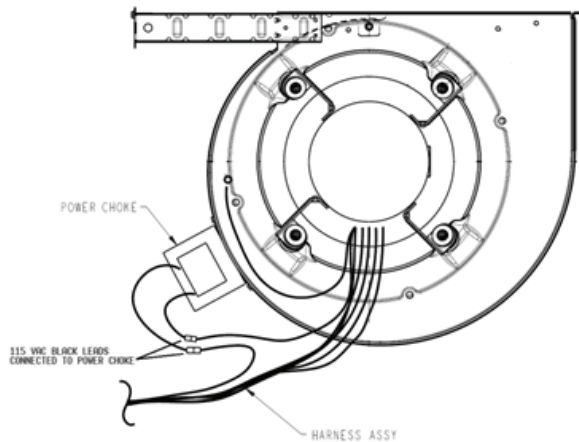

Fig. 3 - Power Choke Wiring
3. Connect each wire of the power choke to the appropriate mating end of the black wire. See Fig. 3.